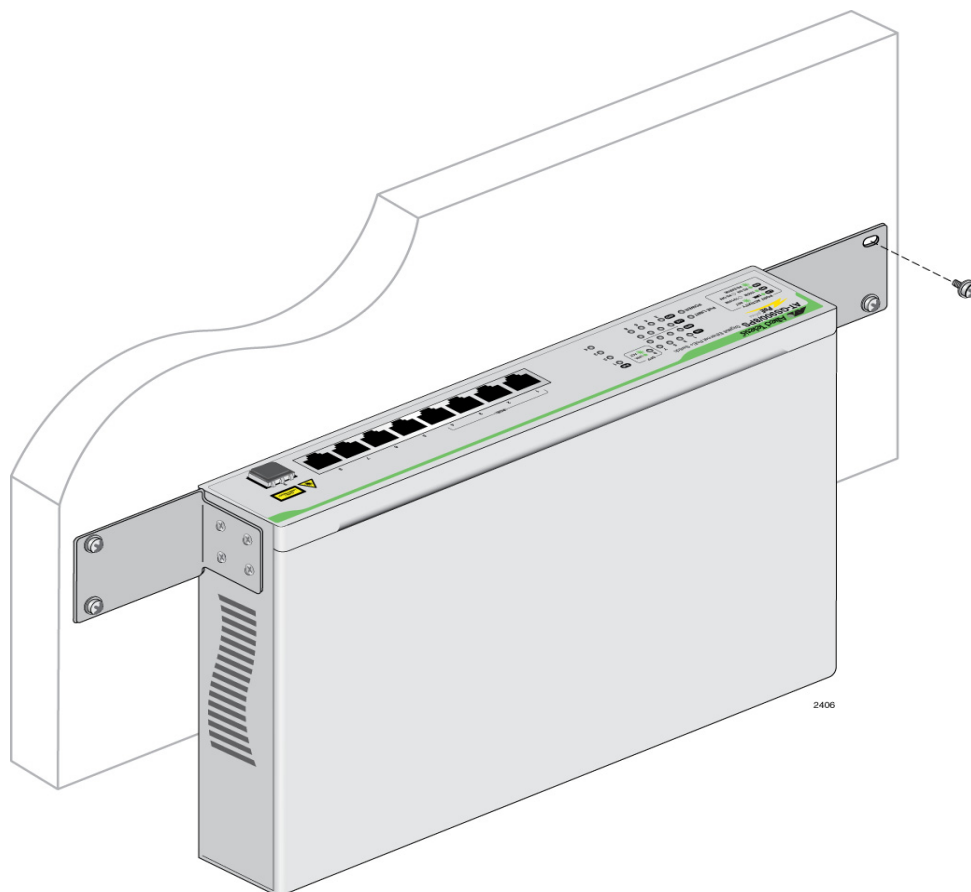

Figure 10. Securing the Switch to the Wall
6. While another person holds the switch at the wall location, secure it to the wall using the four wall mount screws and washers that are provided. See Figure 10 on page 42.